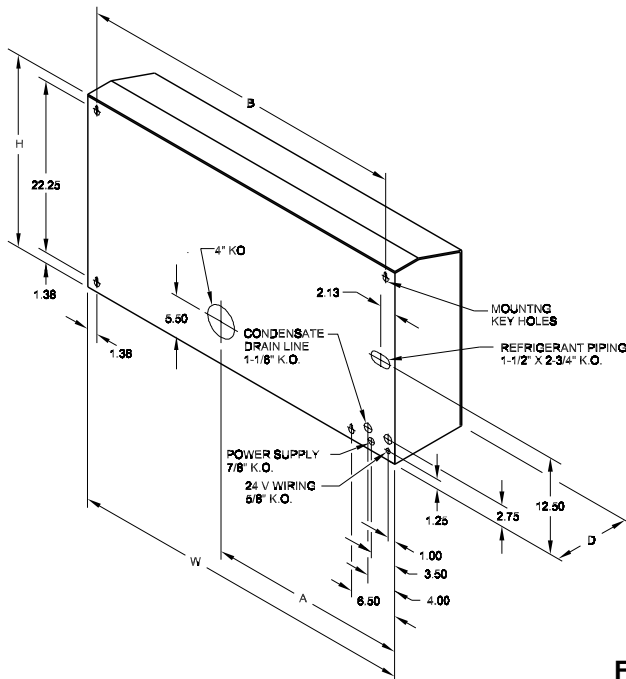

Figure 1
See Figure 1 and 2 for location of refrigerant tubing and electrical service entrance positions.
- 3) Four keyhole slots are provided in the cabinet wrapper for mounting to the wall. See figure 1 for keyhole locations.
- 4) Refer to Figure 1 for location of refrigerant line and electrical service entry. Drill the appropriate holes as required.
- 5) Remove knockouts from unit wrapper where electrical and refrigerant service will enter. Install 5/8" snap bushing in 5/8" OD hole where 24 volt thermostat wire will be routed. See figure 1.
- 3) Two keyhole slots are provided in the top corners of the cabinet wrapper to secure the unit to the wall. See figure 1 for keyhole locations.
- 4) Four keyhole slots are provided in the cabinet wrapper permitting the unit to be mounted to the ceiling. See figure 1 for keyhole locations.
All wiring must comply with local and national code requirements. Units are provided with wiring diagrams, located on electrical compartment panel, and nameplate data to provide information required for necessary field wiring. A 7/8" AND 1-1/8" knockout is provided as entry points for field wiring. Refer to figure 1 and 2. If 1-1/8" knockout is used install snap bushing in hole and route flex conduit through snap bushing to 7/8" hole in electrical box and secure.
Entry points for the refrigerant lines are shown in Figure 1 and 2. These lines must be sized in accordance with the outdoor unit manufacturer's recommendations. The evaporator coil is factory supplied for sweat connections on the liquid and suction lines. A short preformed 90 degree copper elbow is also factory supplied to facilitate the connection to the suction line at the evaporator.
Figure 1 shows the location of the condensate knockouts.